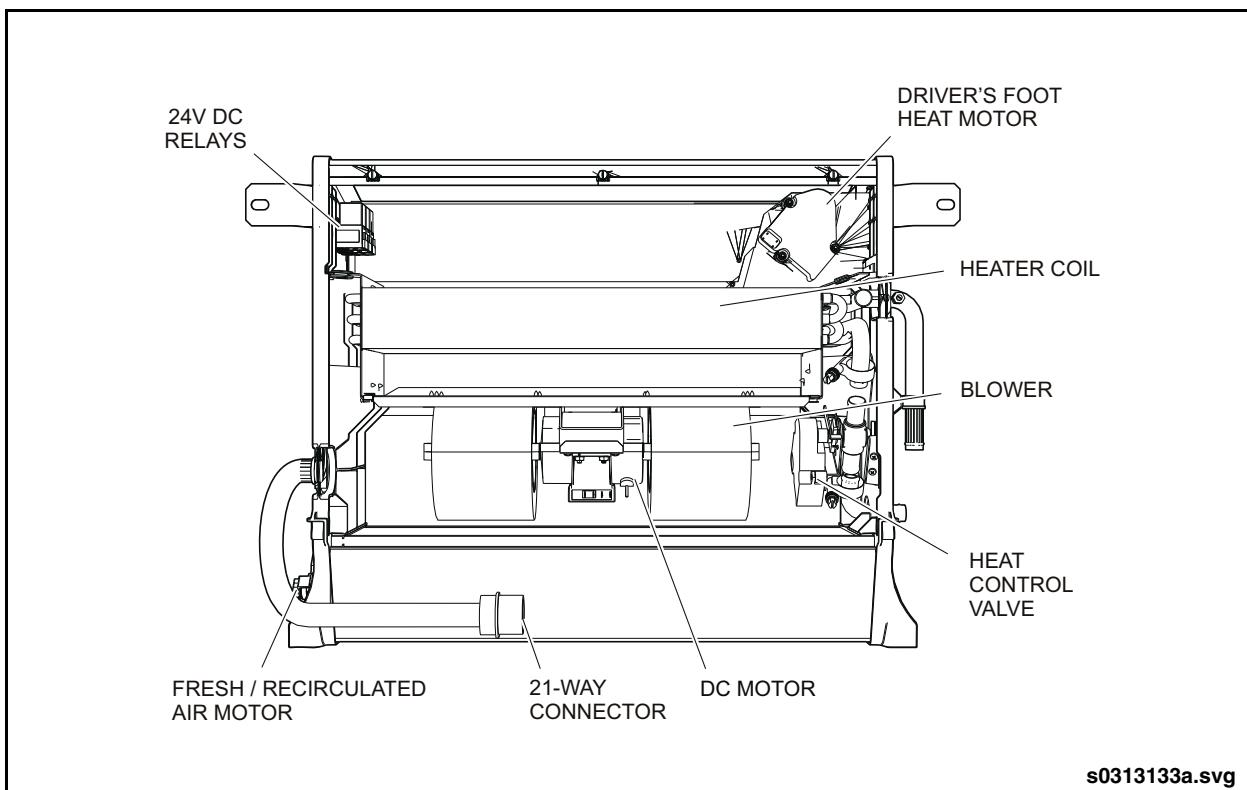

Fig. 10-14: Defroster Components
2. Open the defroster/wiper access door to gain access to the defroster power harness. See "Fig. 10-14: Defroster Components" on page 34.